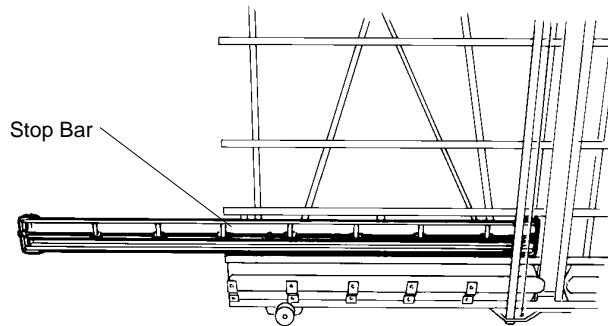

Figure 8: Installing the Stop Bar
1. Position the stop bar in the bottom left side of the frame as shown in Figure 8, resting against the bottom horizontal arm and the vertical back supports.